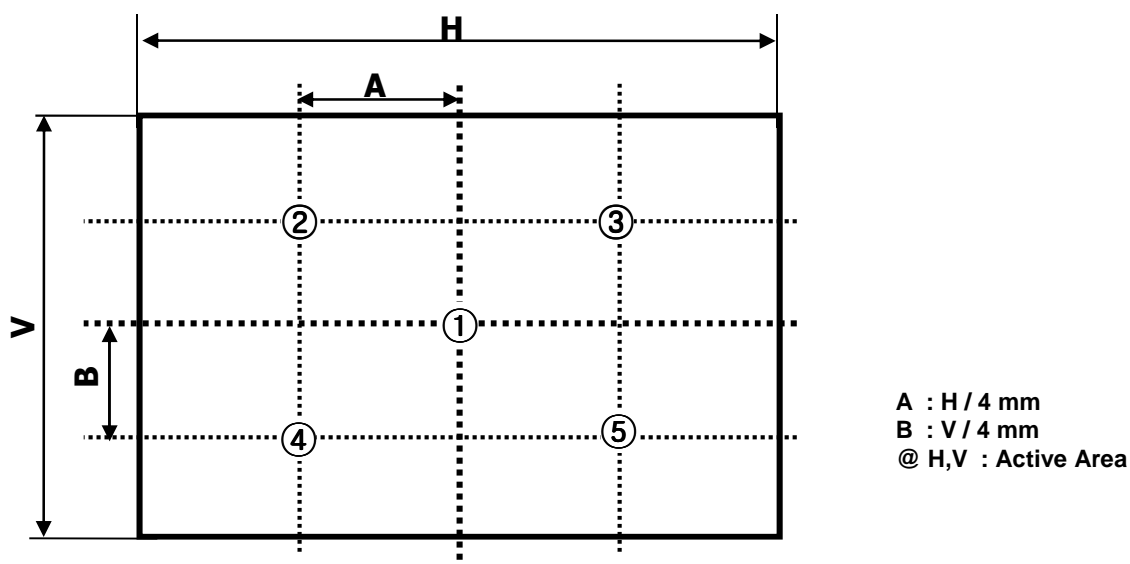

FIG.2 5 Points for Luminance Measure
2. Surface luminance is determined after the unit has been 'ON' and 1 Hour after lighting the backlight in a dark environment at $25 \pm 2^\circ\text{C}$. Surface luminance is the luminance value at center 1-point across the LCD surface 50cm from the surface with all pixels displaying white. For more information see the FIG. 2.
For more information, see the FIG. 2.